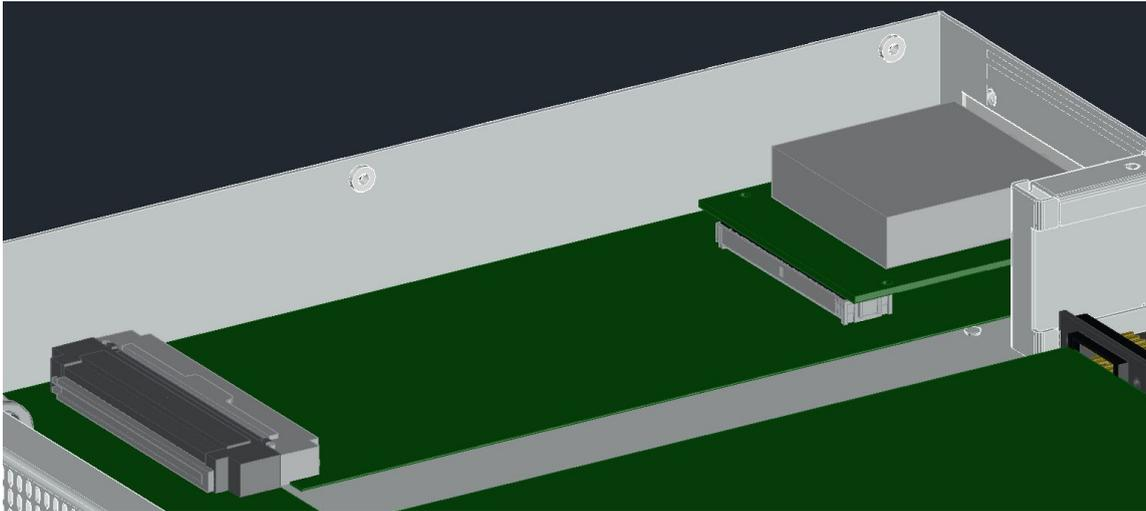

Figure 2: New expansion board working as an FMC carrier, with SEAF-SEAM connectors.
2. Designing a custom expansion board which can work as an FMC carrier (in the same level as the main board) (Figure 2). Please see its details on this option below.